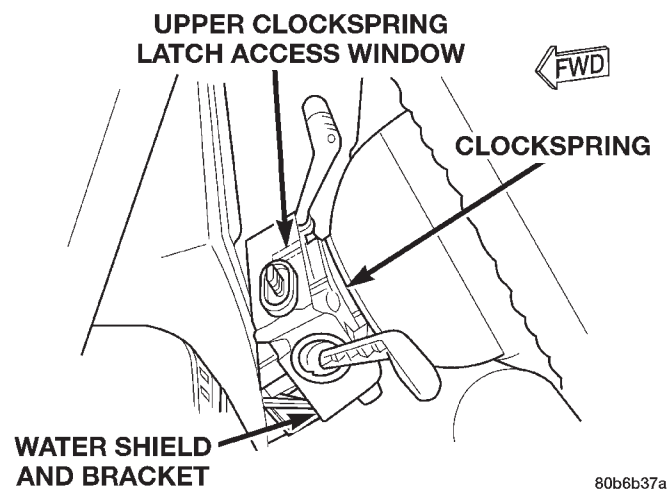

Fig. 22 Upper Clockspring Latch Access Window
(12) The multi-function switch water shield bracket on the top of the steering column has a small access window which allows access to the upper clockspring latch with a small screwdriver (Fig. 22). Gently pry both plastic latches of the clockspring assembly to release them from the steering column upper housing.